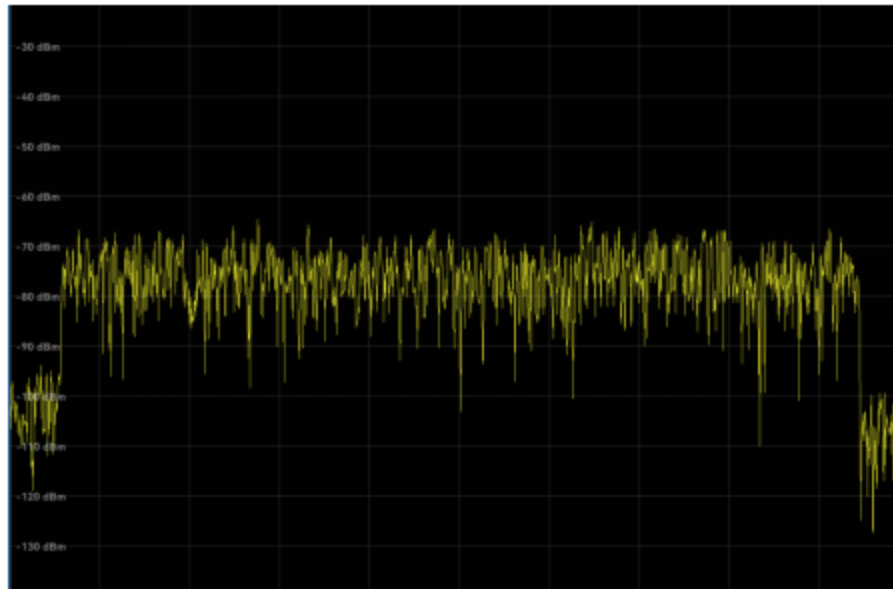

Figure 7.28 4 GFDD interference mode results
Step 5. Observe the 4 GFDD interference mode, and the test results are shown in Figure 7.28: